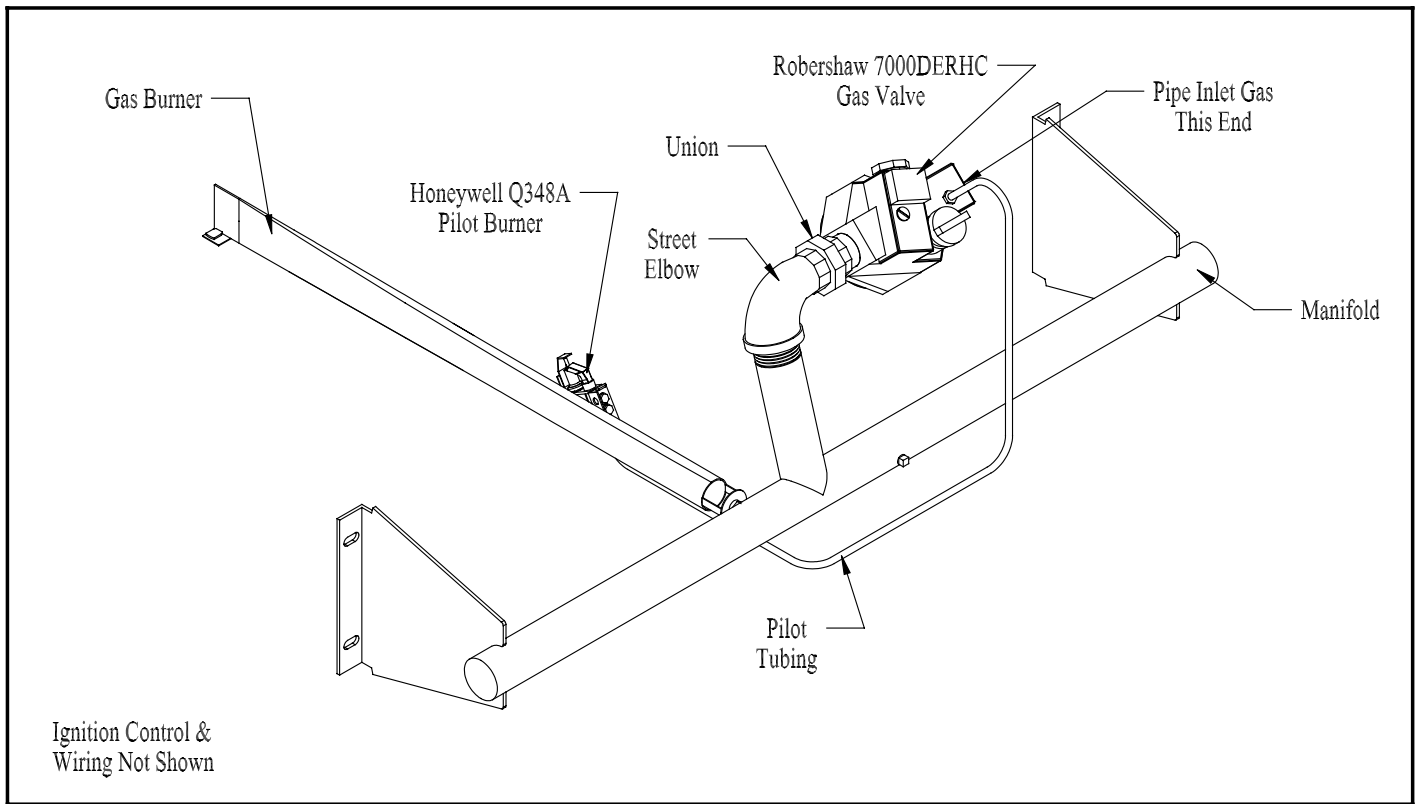

Figure 7: Gas Train - Standard Build
- 1) The standard gas valve assembly has been pre-piped with one half of a piping union and is to be connected to the other half of the union located on the gas manifold. See Figure 7.